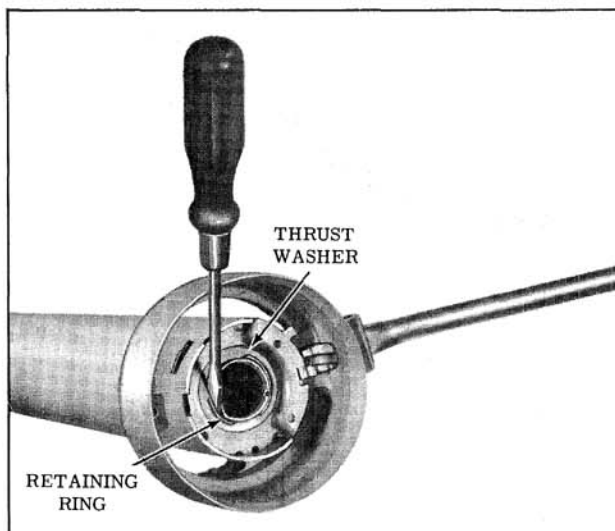

Fig. 8-106 Removing Shift Tube Upper Retaining Ring
2. Remove the shift tube retainer ring and washer from the top of the shift tube. (Fig. 8-106)